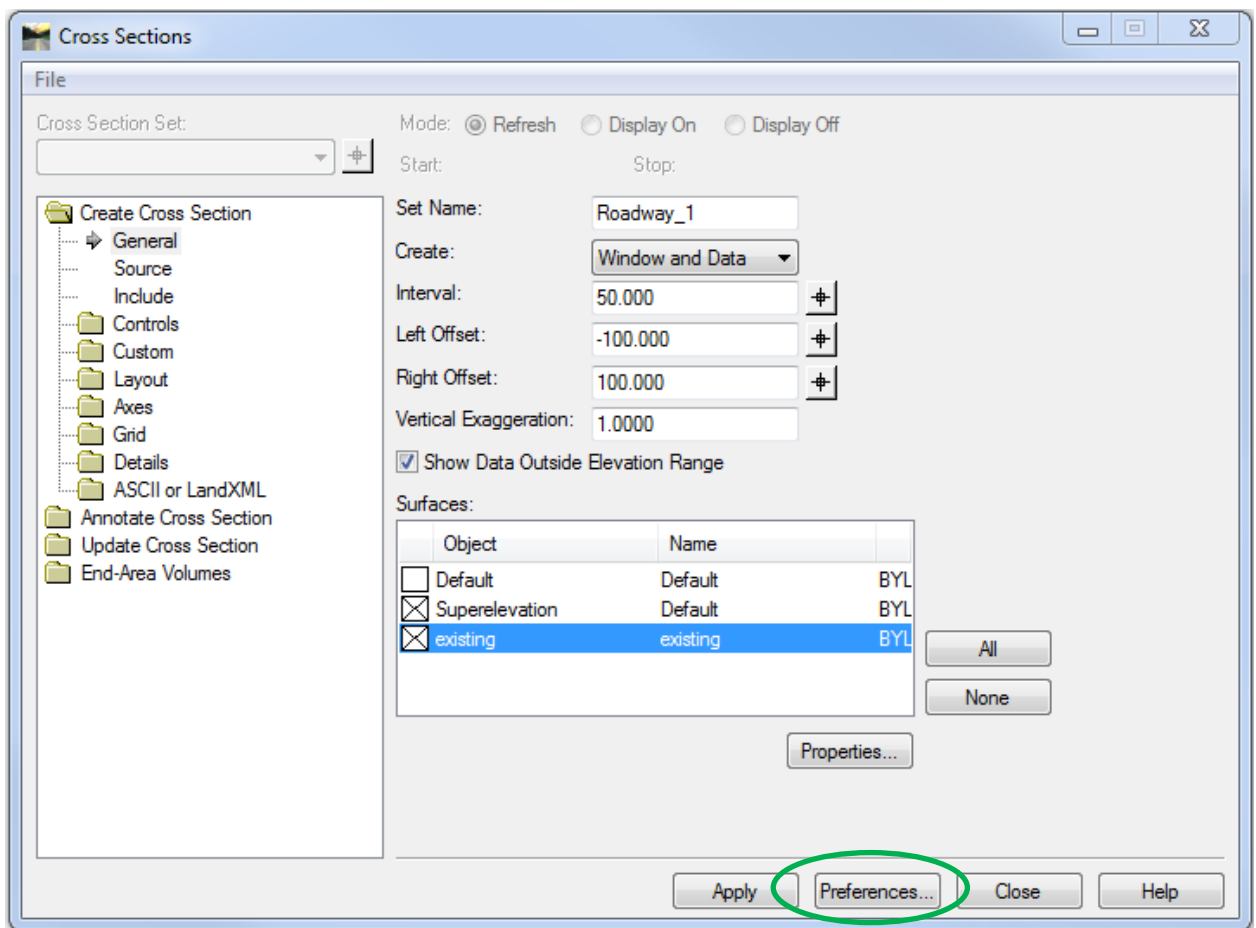

Figure 9-1 InRoads Create Cross Section Dialog Box
- A. Select **Evaluation > Cross Section > Cross Sections**. Figure 9-1 shows the Create Cross Section dialog box.